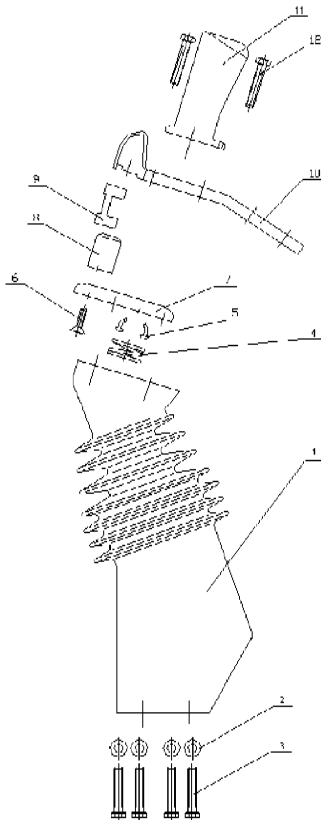

Fig. 25
15.4 Changing the hollow insulator (fig. 25)